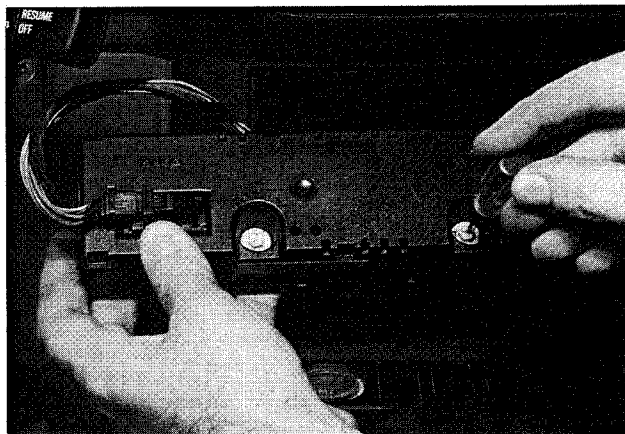

Fig. 11. Turn bulb base 45° counterclockwise.
3. To remove a faulty bulb, use a narrow screwdriver to turn bulb base 45° counter clockwise. See Fig. 11.